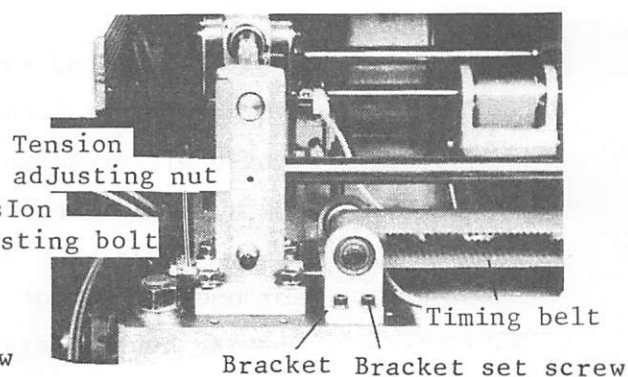

Fig. 11.2 X axis side
11.1.2 Adjusting the stepping motor belt tension (Fig. 11.2)